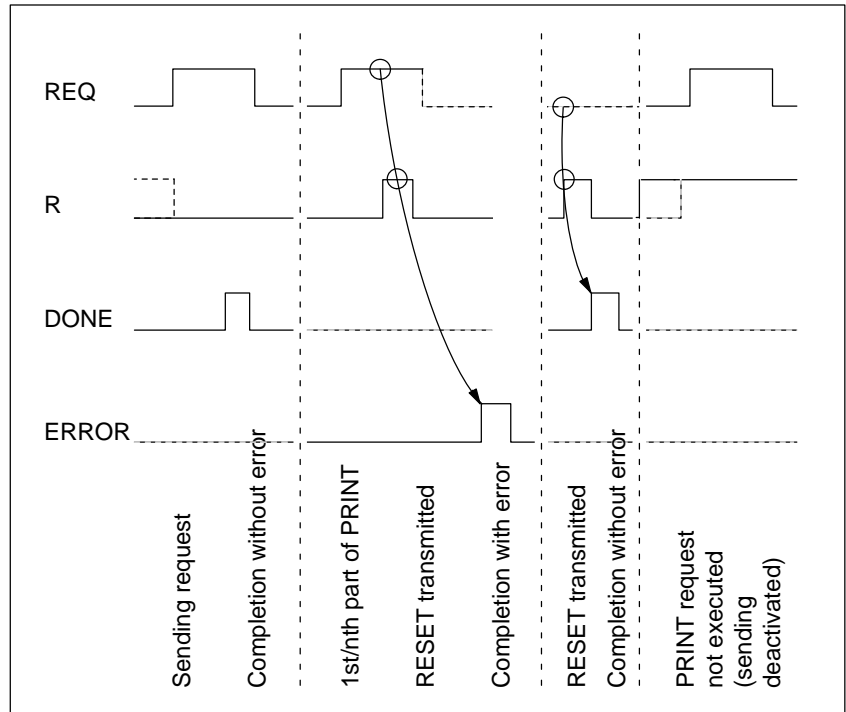

Figure 6-4 Time Sequence Chart for FB 4 P_PRINT
The LADDR parameter specifies the address of the CP 340 to be addressed. The DONE output shows "request completed without errors". ERROR indicates whether an error has occurred. If there was an error, the corresponding event number is displayed in STATUS (see Section 8.3). If there were no errors, STATUS has a value of 0. DONE and ERROR/STATUS are also output when the P_PRINT FB is reset (see Figure 6-4). In the event of an error, the binary result (BR) is reset. If the block is terminated without errors, the binary result has a status of "1".